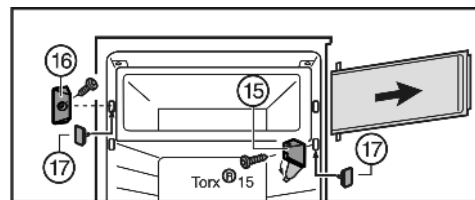

Fig. 11
- ▶ Fold away the cover of the turn hinge *Fig. 11 (15)*.
- ▶ Unscrew turn hinge *Fig. 11 (15)* together with compartment door.
- ▶ Unscrew closing element *Fig. 11 (16)*.
- ▶ Close the vacated holes with the accompanying stoppers *Fig. 11 (17)*.